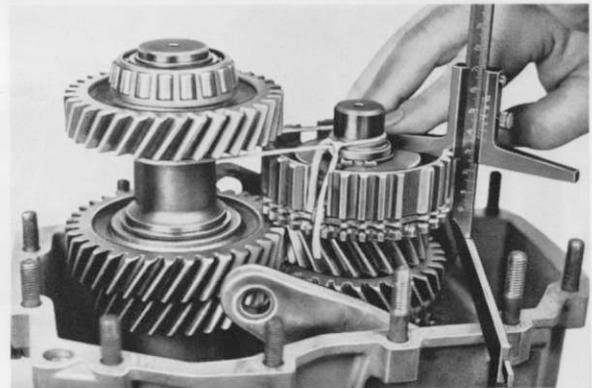

Fig. 45
6. Snap the spring ring (425) into the radial groove of the ball bearing (423). Push ball bearing with the spacer (424) dismantled during disassembly onto the mainshaft (Fig. 45). Bind layshaft to the mainshaft with tape (see Fig. 45).
7. With pressing tool .8., the threaded pieces belonging to it and the 2 distance bushes (426 and 428), press the ball bearing to the stop on the thrust washer (422). Then tap the ball in the housing bore. Leave tool .8. tight.
8. Turn the housing such that the open side points upwards. With a depth gauge measure from the face of the synchrobody to the gearbox joint face (without gasket) (Fig. 45). A straight edge with the high lip on which the slide of the depth gauge is set must be put onto the gearbox joint face (Fig. 45). The measurement established plus the width of the straight edge should amount to $53,5 \pm 0,1$ mm. The difference between the measured size and the theoretical size shows the thickness of the spacer (424), which lies between the recess of the housing and the spring ring (425). The shim (424) which is available in thicknesses of 0,6; 0,8; 1,0; 1,2 and 1,4 mm must, if necessary, be exchanged. Stand gearbox in horizontal position again and take of pressing tool .8.